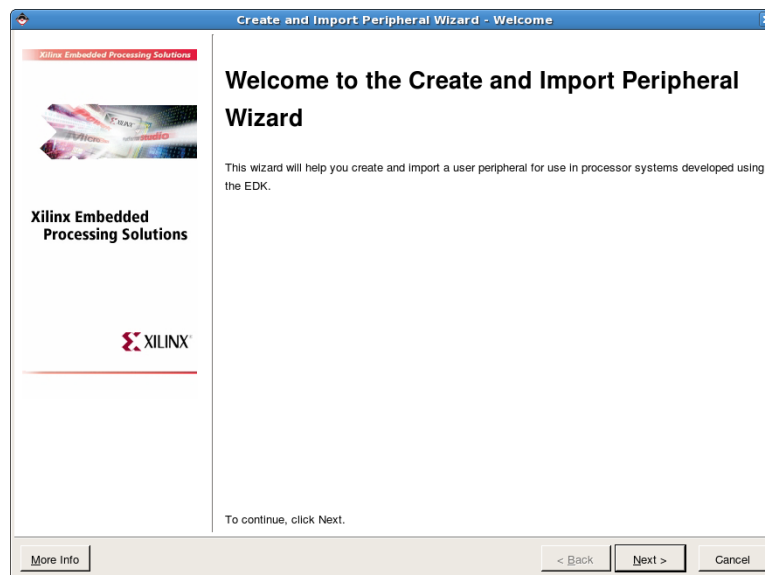

Figure 2: Create and Import Peripheral Wizard - Welcome
- (a) From the XPS main menu, select **Hardware**→**Create or Import Peripheral**. The 'Create and Import Peripheral Wizard' should come up (Figure 2). Hit 'Next' to continue.